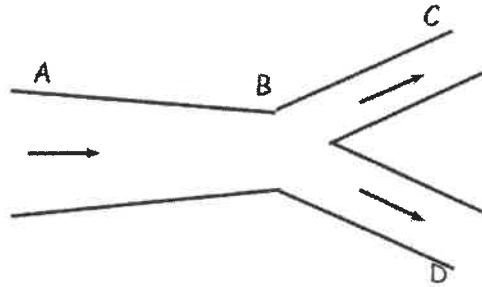

Figure 2: Branch pipe
- a) A pipe is split into 2 pipes which are BC and BD as shown in Figure 2. The following information is given: